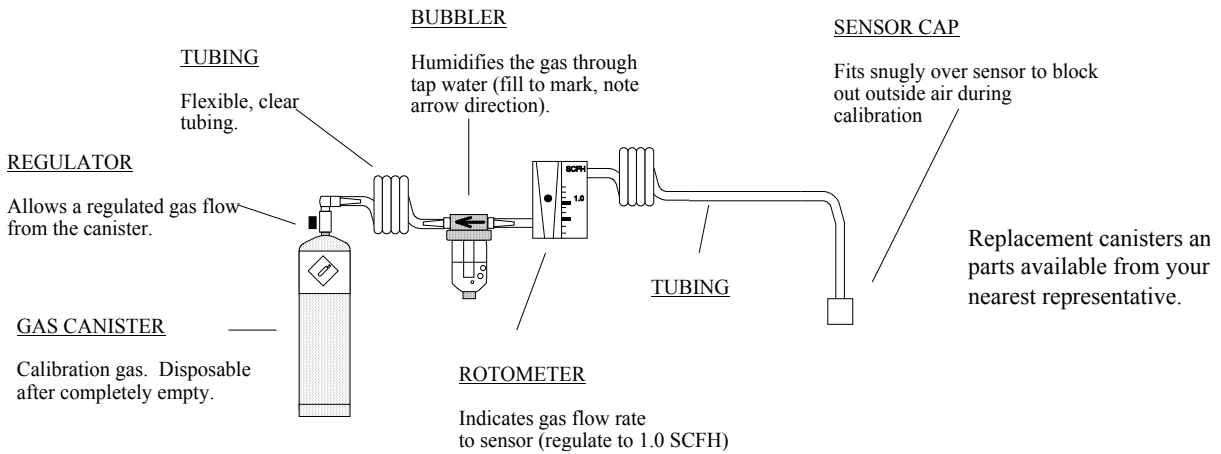

Figure 1.0
4. **SETTING THE LOW ALARM:** Setup the Enmet calibration kit as per the Enmet calibration kit drawing (see fig 1.0): You will need a gas canister containing the gas concentration of the low alarm level i.e. if the low alarm is to be set at 35 ppm Carbon Monoxide then the canister should contain 35 ppm Carbon Monoxide. Attach the calibration cup over the Gas-Alert integral sensor and adjust the gas flowrate to about 0.75 – 1 SCFH. Note: the use of the voltmeter is optional, but is useful to determine the length of the calibration time. The sensor requires roughly 1 to 2 minutes to stabilize or until the voltage drop stabilizes.
3. SETTING THE LOW ALARM: Setup the Enmet calibration see Fig. 1.0: You will need a gas canister containing the gas concentration of the low alarm level i.e. if the low alarm is to be set at 35 ppm then the canister should contain 35 ppm. Attach the calibration cup over the sensor and adjust the gas flowrate to about 0.75 – 1 SCFH. Note: the use of the voltmeter is optional, but is useful to determine the length of the calibration time. The sensor requires roughly 1 to 2 minutes to stabilize or until the voltage drop has stabilized.